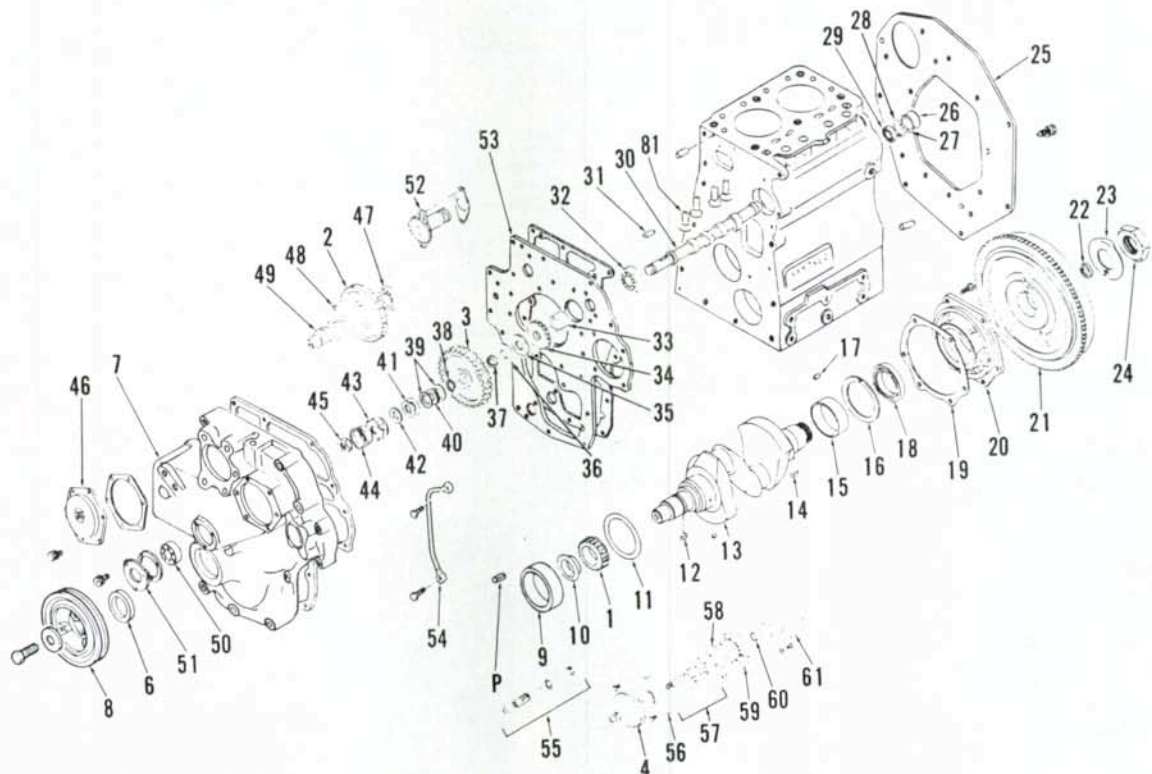

Fig. 64—Exploded view of timing gears and related parts typical of 1100, 1110, 1200 and 1300 models.
33. To remove timing gear case (7—Fig. 64), first drain cooling system and engine oil. Remove the radiator, coolant fan and fan pulley, alternator and water pump. Disconnect fuel lines from injection pump and immediately plug all openings in fuel system. Remove
injection pump mounting cap screws, set pump control lever in middle of travel and remove injection pump. Be sure to retain any shims used between injection pump and timing gear case for use in installation. Remove hydraulic pump assembly. Remove crankshaft pulley. Remove camshaft gear cover (46—Fig. 64), nut (45) and governor weight assembly (43). Remove injection pump camshaft bearing cover (51). It may be necessary to bump injection pump camshaft (49) back as gear case is pulled forward. Unbolt and remove timing gear case (7) from front of engine.
Remove rocker arm cover, rocker arms and push rods. Remove timing gear case as outlined in paragraph 33. Remove timing gears, oil pump and front plate (53—Fig. 64). Turn engine upside down or use suitable tools to hold cam followers away from camshaft, then